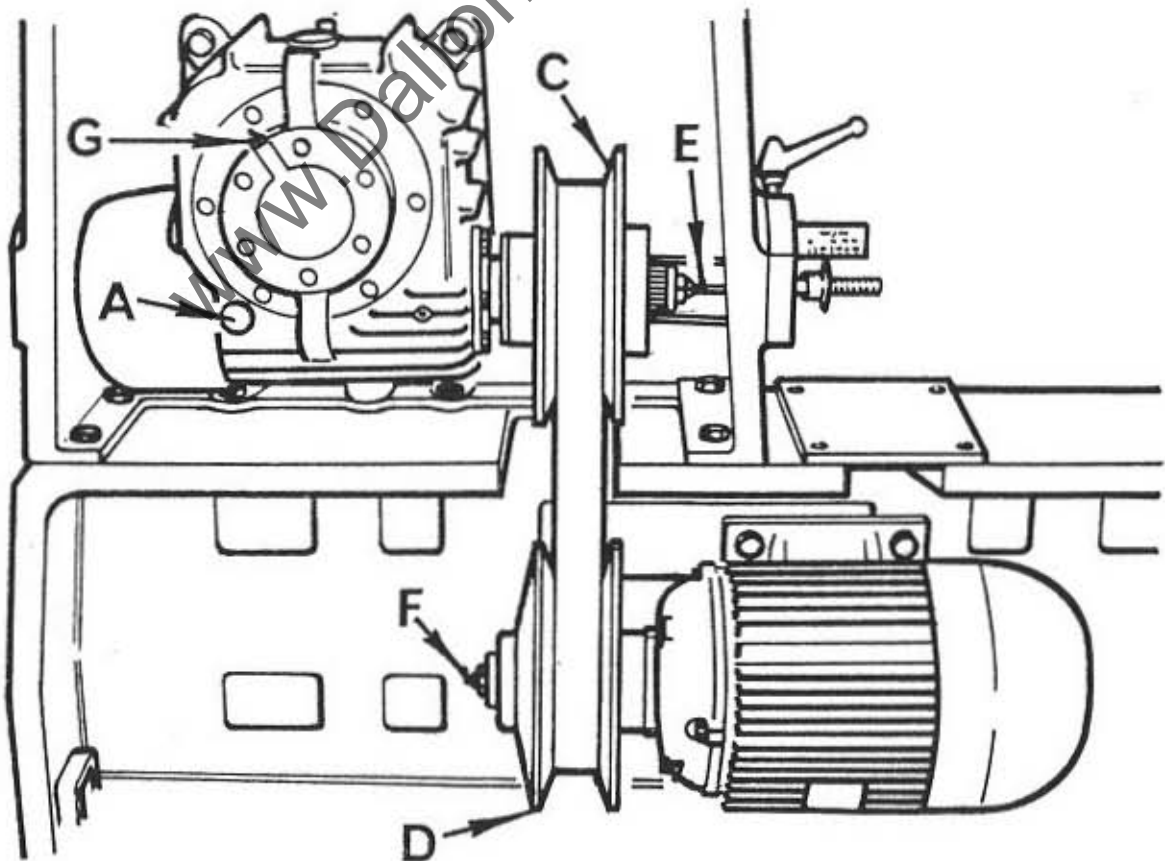

Fig 8
2. Remove oil level plug "A" in FIG 8 from side of backshaft gearbox "B" and check that oil level is up to bottom of hole. Top up if necessary, using correct grade of oil. See Approved Lubricants Page 26.
7. Grease backshaft gearbox at point "G" in FIG 8